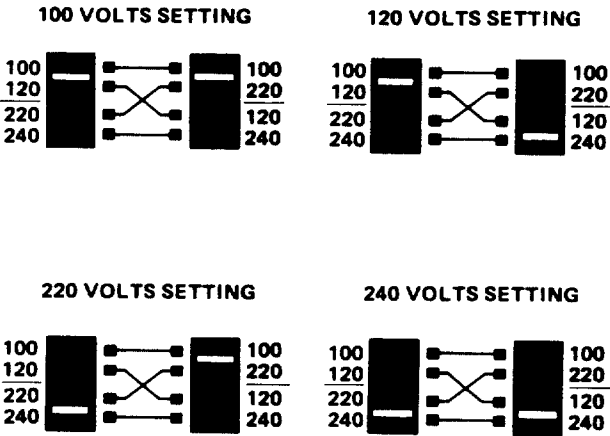

Figure 1-2. Quasi-Peak Detector Voltage Selection
- 2. If you have an HP 85650A Quasi-Peak Adapter, set the rear-panel, ac power level switches to the line voltage closest to the voltage measured. See Figure 1-2. The line voltage must be within +5% -10% of the voltage setting on the switch. If the line voltage is not within these limits, connect a variable-ratio transformer (i.e., autotransformer) between the ac source and the HP 85650A. Make sure the correct fuse is installed in the fuse holder. The required fuse rating depends on the ac line voltage and is indicated next to the fuse holder and in Table 1-2.